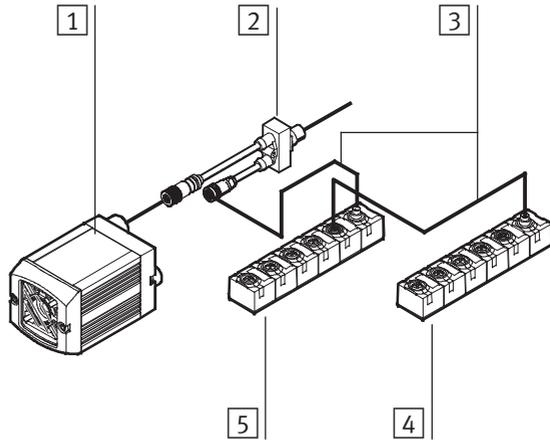

Fig. 4/15: Compact Vision System SBOI-Q with I/O expansion (example).
- To provide power to the external I/O modules, first connect cable SBOA-K20CP-SUP from Festo to the Compact Vision System (➔ Fig. 4/15).
- Then connect the I/O modules as depicted in the example Fig. 4/15. To do this, use connecting cable KVI-CP-3. Please note that the total cable length must not exceed 10 m.